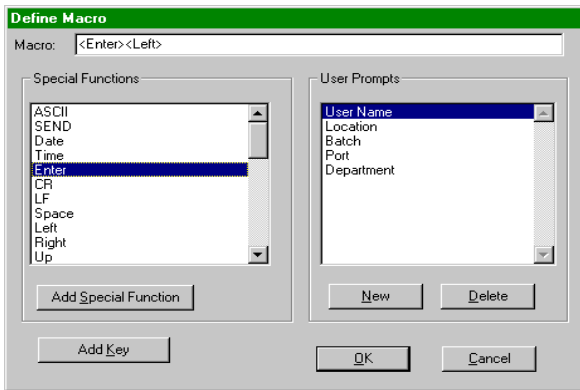
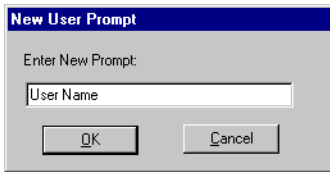

Figure 5.5: Define Macro dialog box
Figure 5.8: New User Prompt dialog box
1. If this is the first Macro for the Parser, the list should be blank and the top line opposite [1] should be highlighted. Simply click on the '*Edit*' button located below the 'Macros' box on the [Parser Setup] dialog box (see Figure 5.3, Page 46). This will open the [Define Macro] dialog box, as seen in Figure 5.5 (see Page 59).
3. Click inside the box opposite a Macro number to highlight that line (see Figure 5.3, Page 46), then click on the '**Edit**' button to open the [Define Macro] dialog box, shown in Figure 5.5.
4. If you are editing Macros that have already been created, highlight the line with that Macro and click on the '**Edit**' button located below the 'Macros' box on the [Parser Setup] dialog box (see Figure 5.3, Page 46). This will open the [Define Macro] dialog box. Please refer to Figure 5.5.
2. Click the ‘*OK*’ button. You will see the [Define Macro] dialog box again (see Figure 5.5, Page 59), and your key selection will be added to the Macro. For example, you will see <Alt F7>.
These characters instead can be selected from the list of 37 Special Functions, on the left side of the [Define Macro] dialog box (see Figure 5.5, Page 59).
1. Click the '**New**' button located below the User Prompts: box in the [Define Macro] dialog box (see Figure 5.5, Page 59). The [New User Prompt] dialog box will appear as shown in Figure 5.8 (see Page 64).